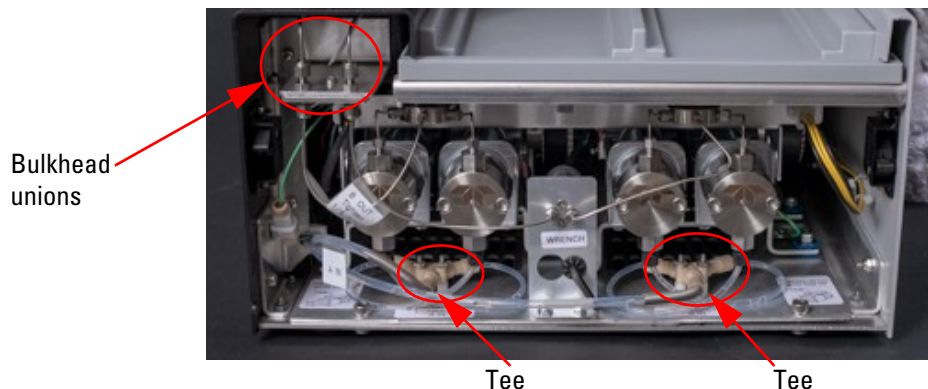

Figure 2-7 Line connections on the pumps
2. The right two pump heads form the B solvent pump, and the outlets are connected to a tee. The outlet tee on this side is connected to the pressure transducer in the middle of the assembly. The remaining connector on the pressure transducer must be connected to the right bulkhead union. Tighten this fitting with the 1/4" open-end wrench (Figure 2-7).